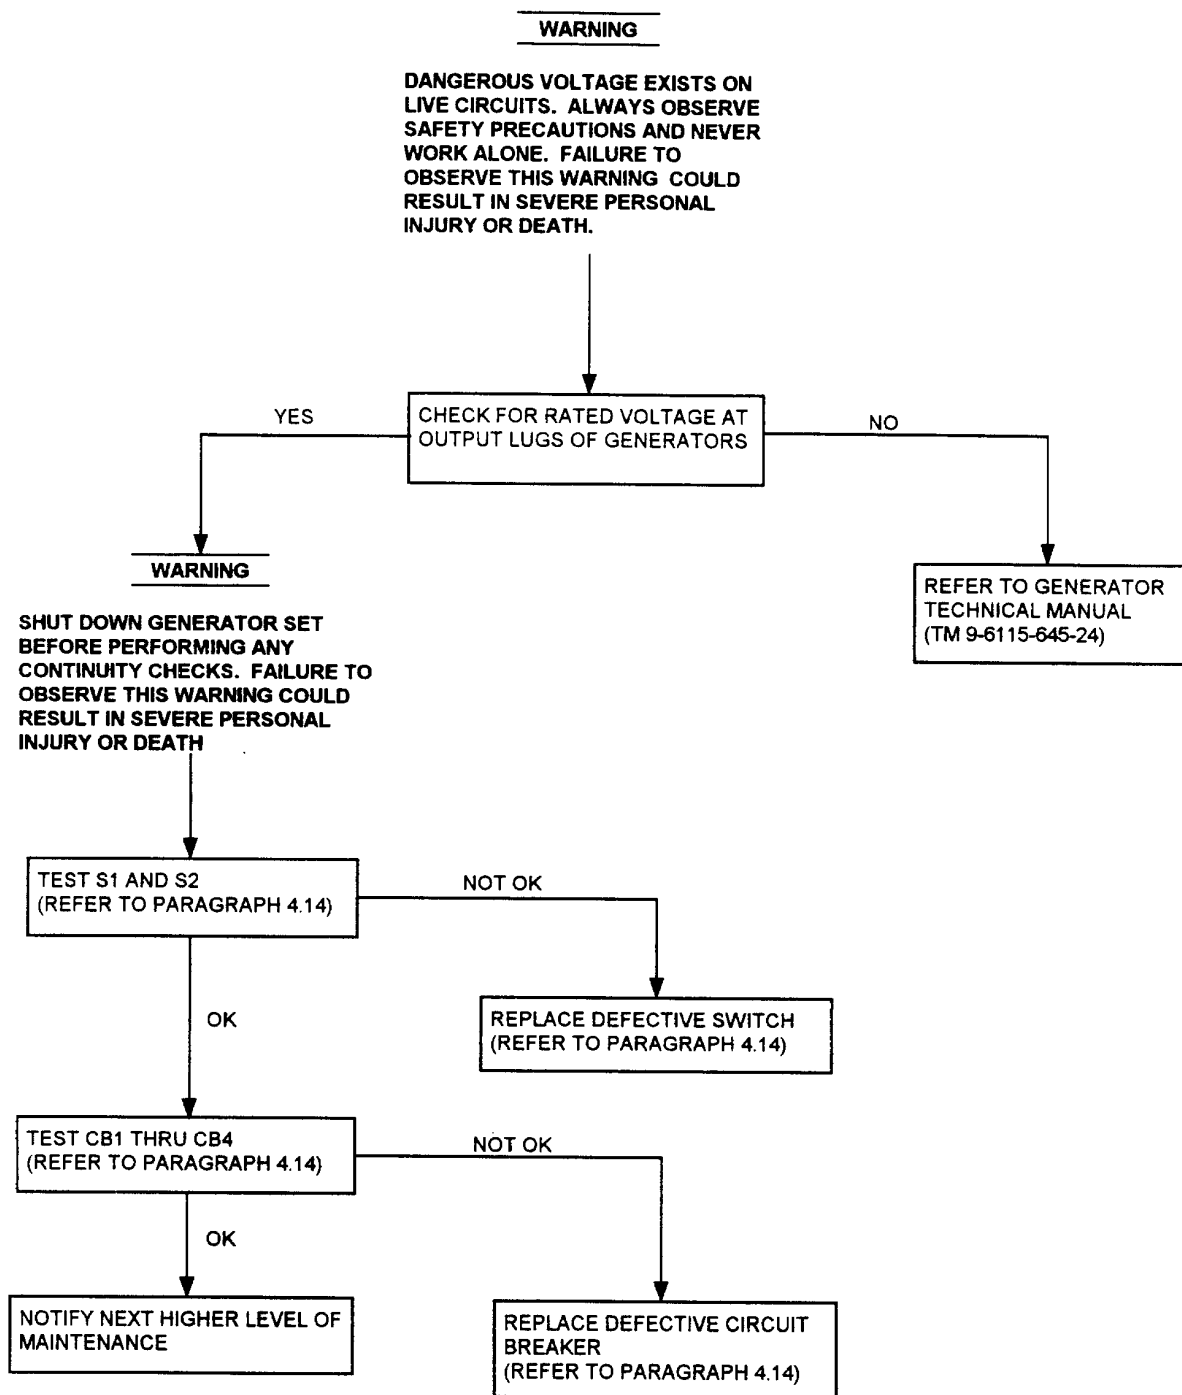
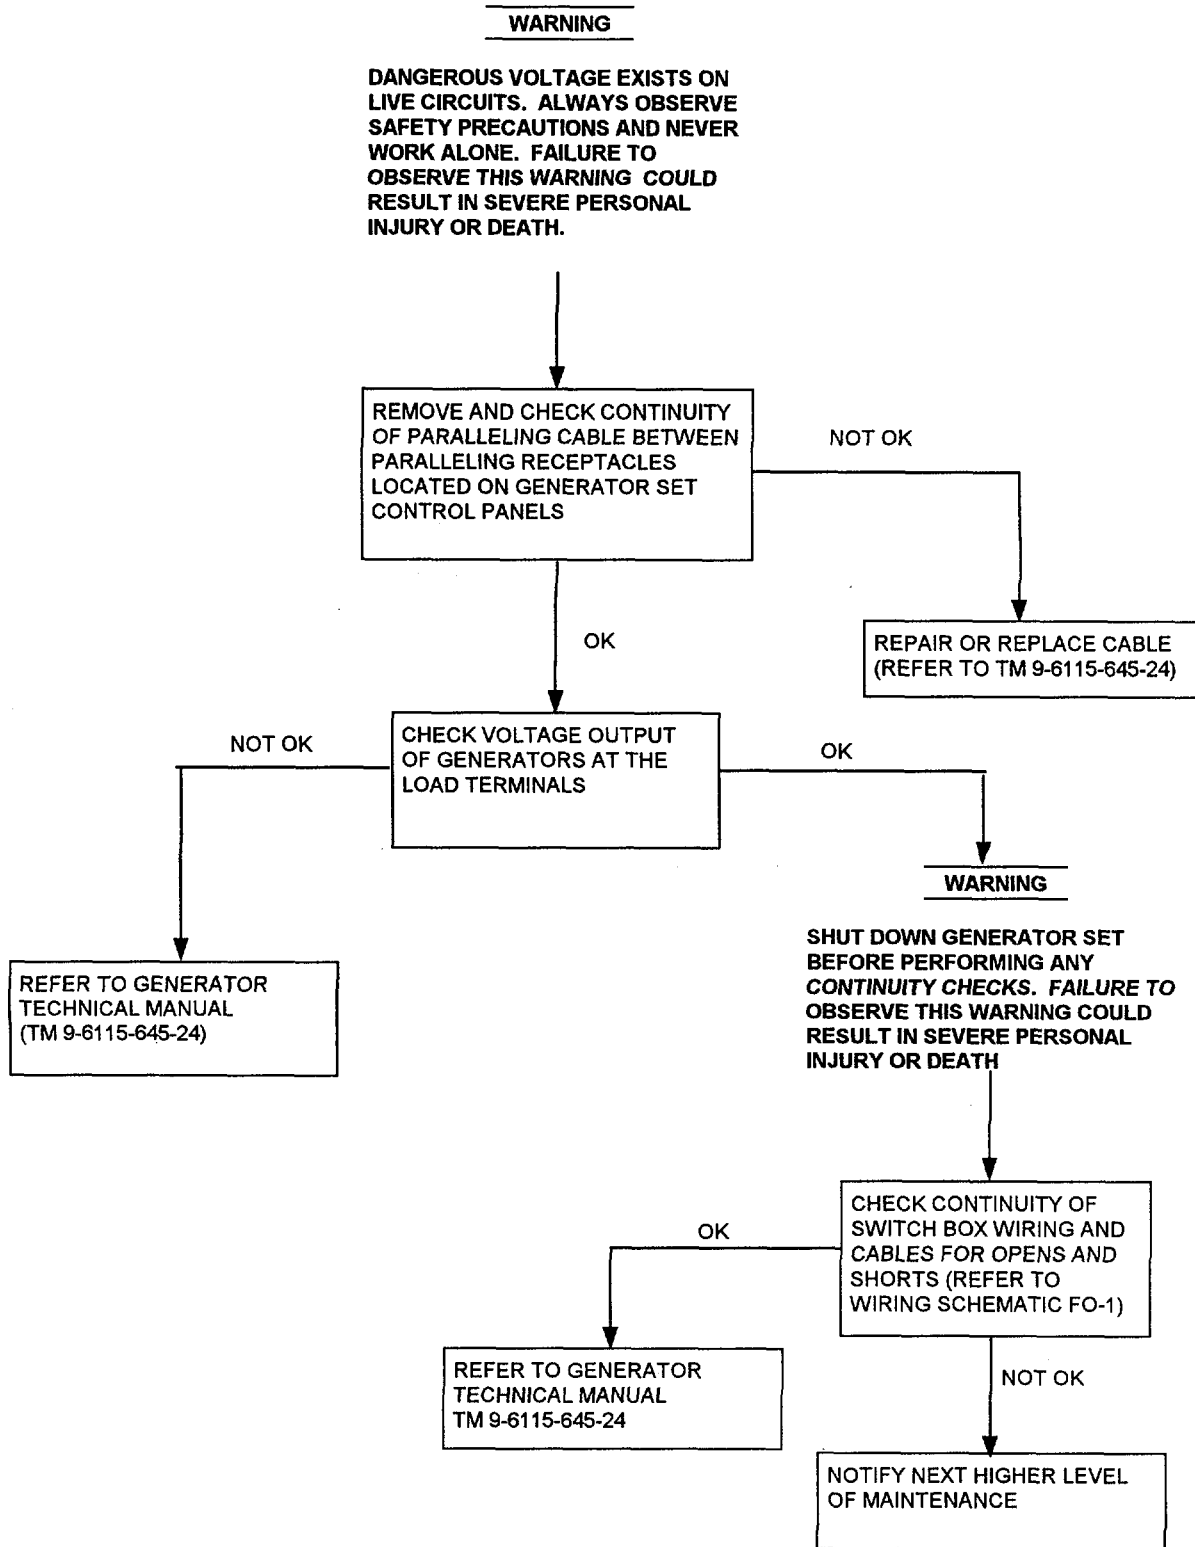
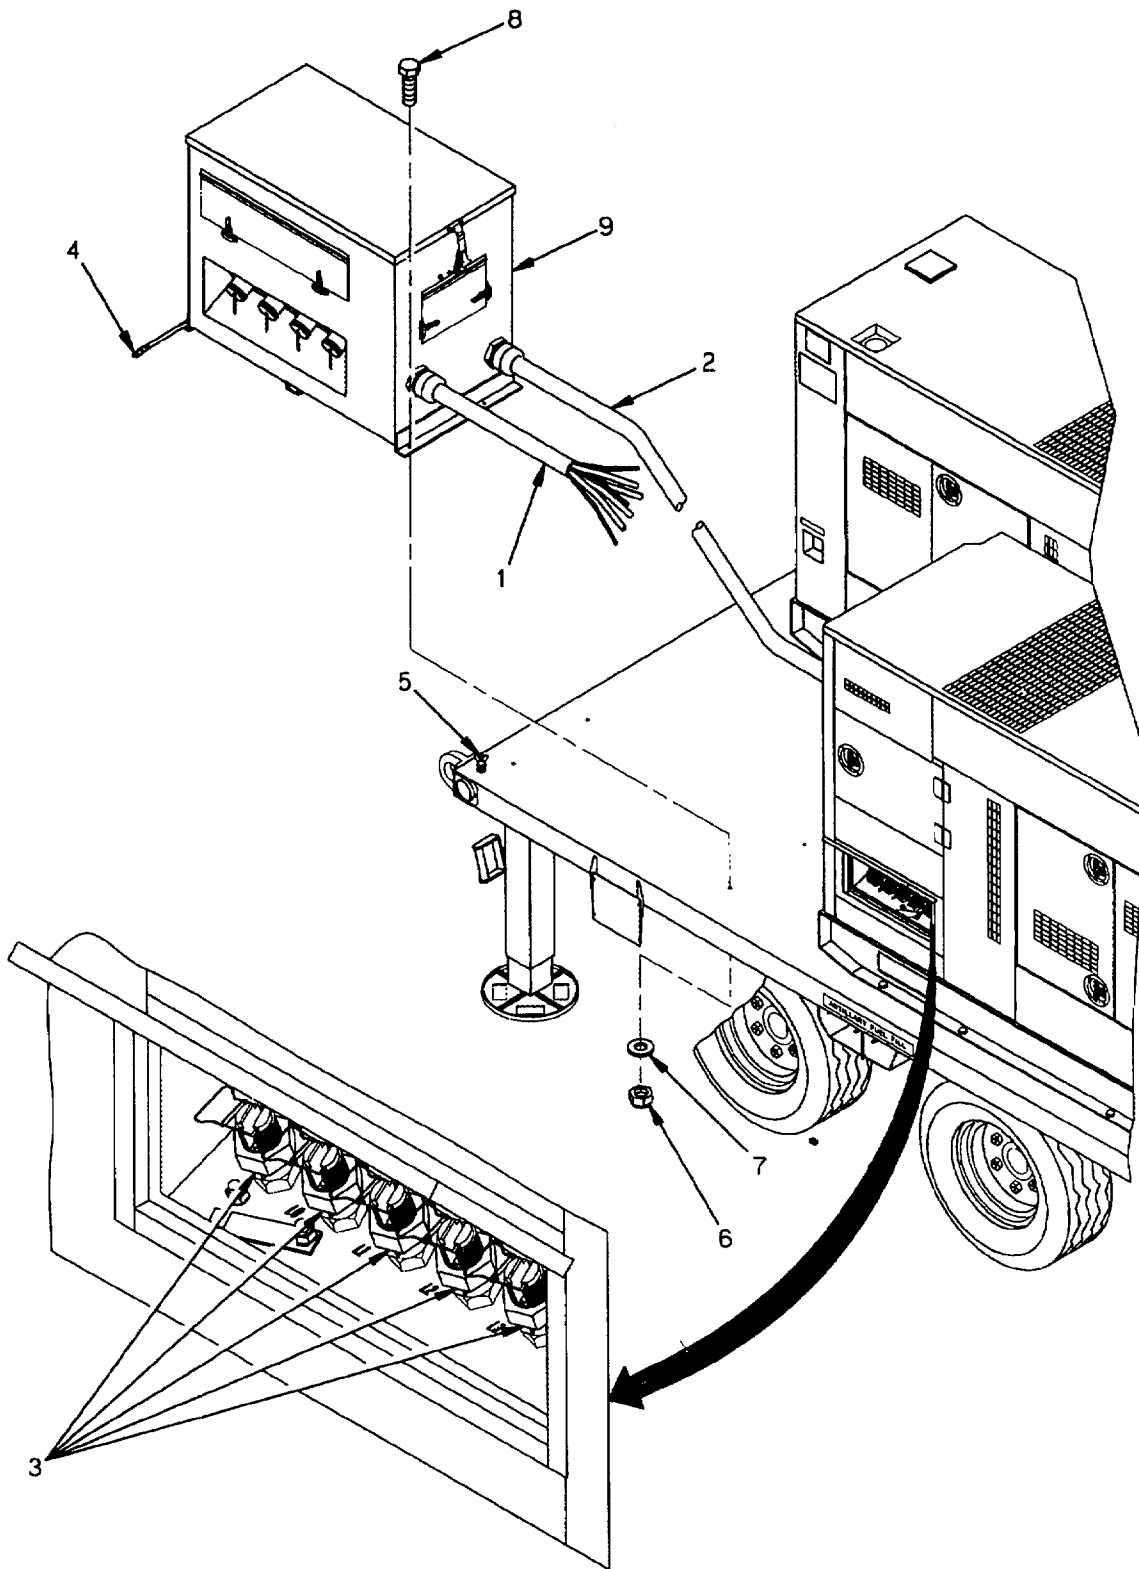

Figure 4-4. Switch Box has no power output.
Figure 4-5. Power Plant fails to parallel.
Figure 4-6. Switch Box Replacement
Refer to TM 9-6115-645-24 for generator set troubleshooting procedures, and to TM 9-2815-256-24 for engine troubleshooting procedures. Refer to TM 9-2330-376-14&P for trailer troubleshooting procedures. The symptom index for the power plant lists faults associated with switch box operation. Figure 4-4, figure 4-5, figure 4-6, and figure 4-7, provide a go-no-go- flowchart of each malfunction. Each malfunction listed includes a reference to the applicable figure that contains a chart to help you determine probable causes and corrective actions to take. The symptom index cannot list all faults that may occur, nor all the tests or inspections and corrective actions. If a malfunction is not listed or cannot be corrected by listed corrective actions, notify next higher level of maintenance for assistance.
Switch Box has no power output	Figure 4-4
Power Plant fails to parallel	Figure 4-5
1. Disconnect cables W1 (1, figure 4-6) and W2 (2) from the generator load terminals (3).
3. Remove ground cable (4) from the trailer ground terminal (5).
4. Remove four nuts (6), flat washers (7), and screws (8) that secure the switch box assembly (9) to trailer.